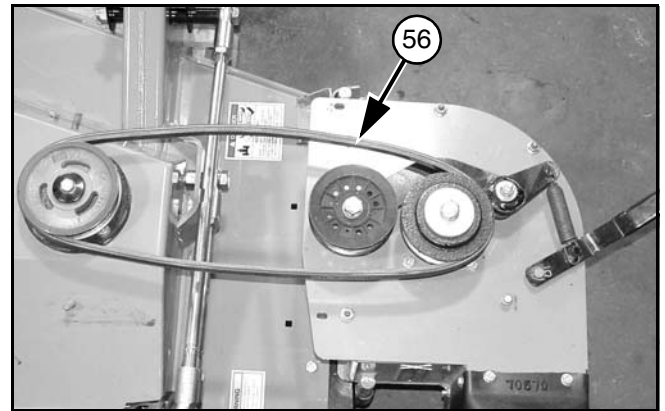

Figure 7. Vacuum Drive Belt Layout
1. Install belt (56) over sheaves and idler as shown in Figure 7.